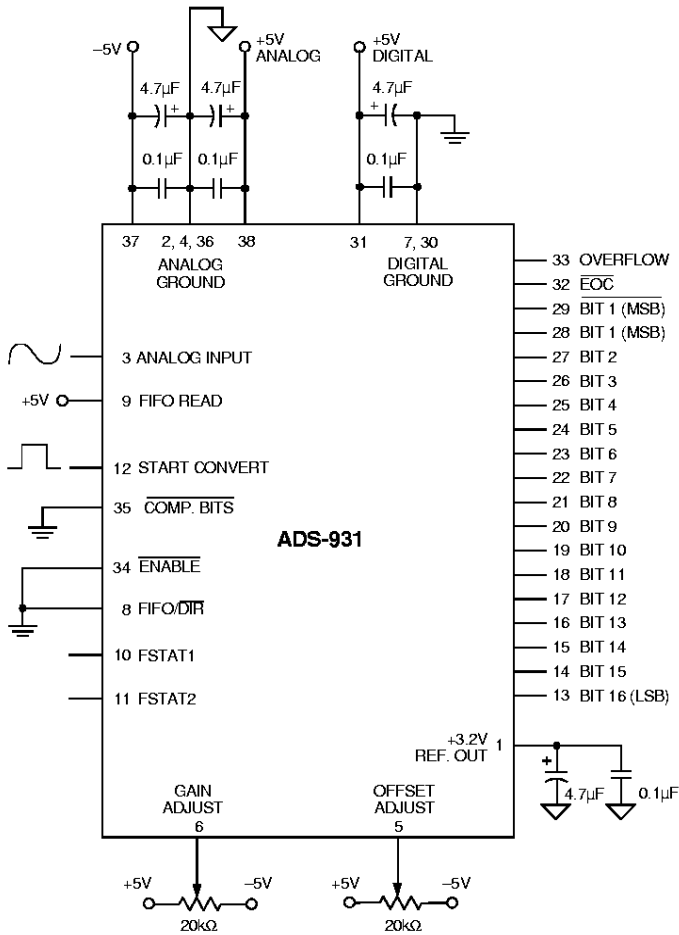

Figure 2. Connection Diagram
- The ADS-931 achieves its specified accuracies without the need for external calibration. If required, the device's small initial offset and gain errors can be reduced to zero using the adjustment circuitry shown in Figure 2. When using this circuitry, or any similar offset and gain calibration hardware, make adjustments following warmup. To avoid interaction, always adjust offset before gain. Tie pins 5 and 6 to ANALOG GROUND (pin 4) if not using offset and gain adjust circuits.
(Refer to Figure 2 and Tables 2a and 2b)
Connect the converter per Figure 2. Any offset/gain calibration procedures should not be implemented until the device is fully warmed up. To avoid interaction, adjust offset before gain. The ranges of adjustment for the circuits in Figure 2 are guaranteed to compensate for the ADS-931's initial accuracy errors and may not be able to compensate for additional system errors.